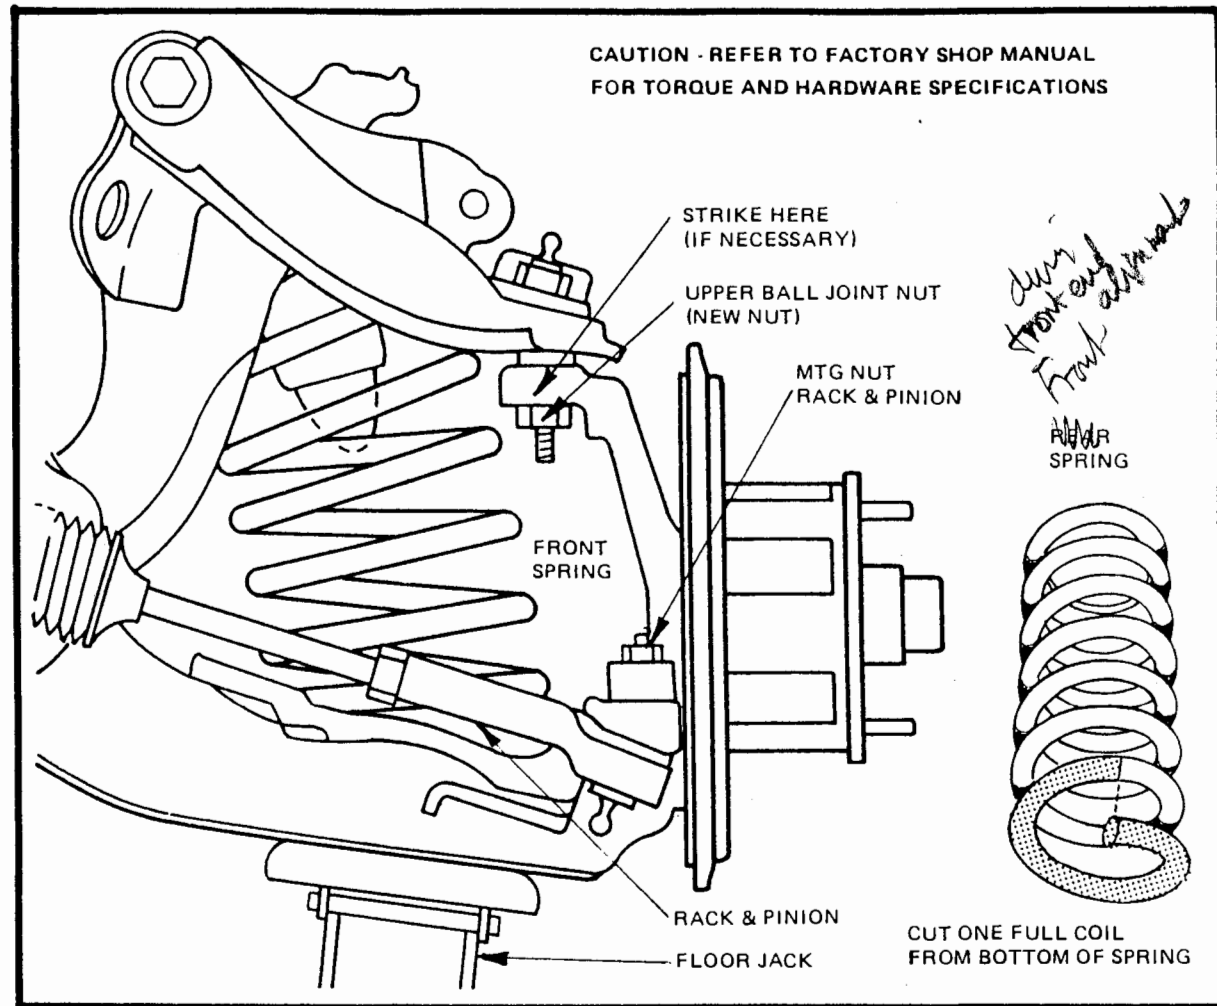

Figure 11
- Disconnect rack and pinion from wheel. Secure chassis on jack stands under frame. Place a floor jack under wheel assembly and compress spring. Use additional weight on front end if necessary. Loosen upper ball joint nut about halfway. Do not remove. If ball joint will not work free, rap on side of wheel assembly with a hammer to free it. Do not strike threaded portion. Remove nut and slowly lower wheel assembly until spring is free. If spring should get stuck use a rubber mallet or screw driver to free it. (Figure 11)
- Cut 1 full coil off of the bottom of spring. You will have to use a special carbide saw blade or have it cut with a torch. Reinstall in car by jacking up wheel assembly until ball joint stud can be seated. Install new nut and tighten. (Figure 11) Wheels and tires can now be installed to give a rolling chassis.